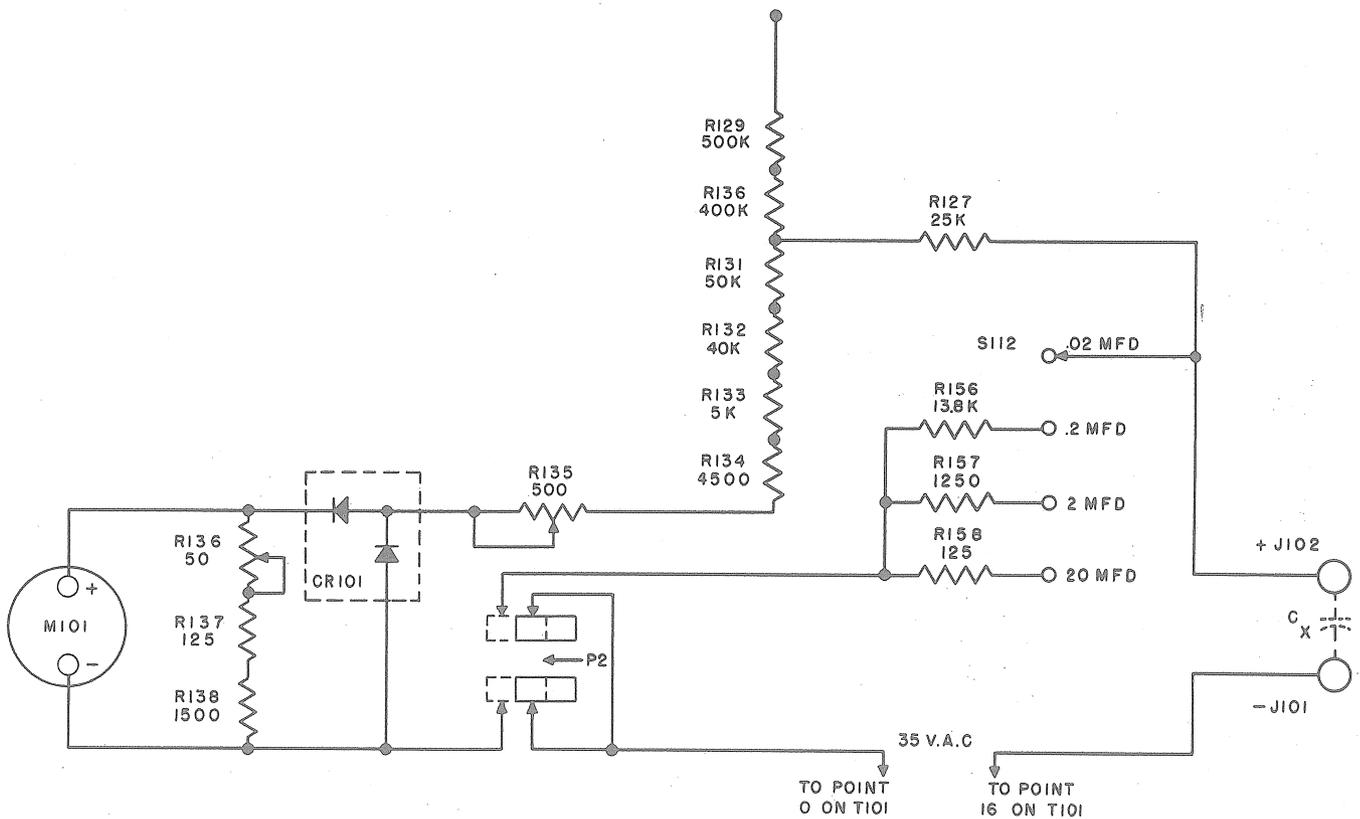

Figure 2-14.—Simplified Capacity Meter Circuit.
- (2) Adjustment of the RANGE selector switch applies the current to be measured to the proper tap on the series of resistors.
- e. CAPACITY (See Figure 2-14)
- (1) With the FUNCTION selector set at CAP. the test circuit illustrated by Figure 2-14 is established.
- (2) Adjustment of the RANGE switch S-112 permits selection of the four ranges of capacity.
- (3) A standard ac voltage is applied across the unknown capacity C_x through a circuit consisting of CR-101, R-127, R-131 through R-138 and M-101 which acts as an ac milliammeter. The three high capacity ranges are obtain by inserting one of three shunt resistors R-156, R-157 or R-158, selected by S-112, in parallel with the ac milliammeter circuit.
- (4) The current through the capacitor under test and the ac milliammeter is inversely proportional to the reactance of the capacitor and is measured by the meter in terms of capacity in microfarads based on a line frequency of 60 cycles.